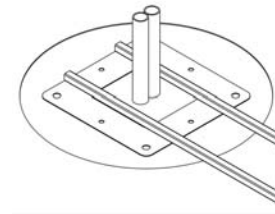

FIGURE 4.2
- Ensure that the required conduits (one for power, one for the control wiring) fit in the center of the anchor bolt template. (see figure 4.2) Using 1" grade 8 anchor bolts (or equivalent), imbed the anchors using epoxy chemical anchor (HILTI HIT150 or equivalent).